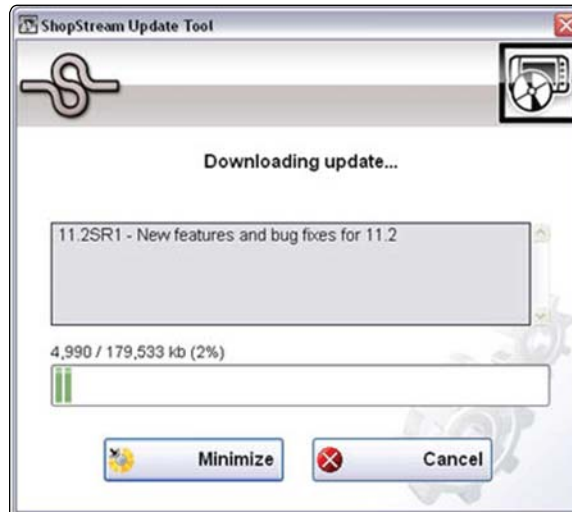

Figure 16-5 Typical - Downloading update window
- If updates are found, they will automatically begin to download (Figure 16-5).
The percentage status bar may not always be displayed while downloading (Figure 16-5).